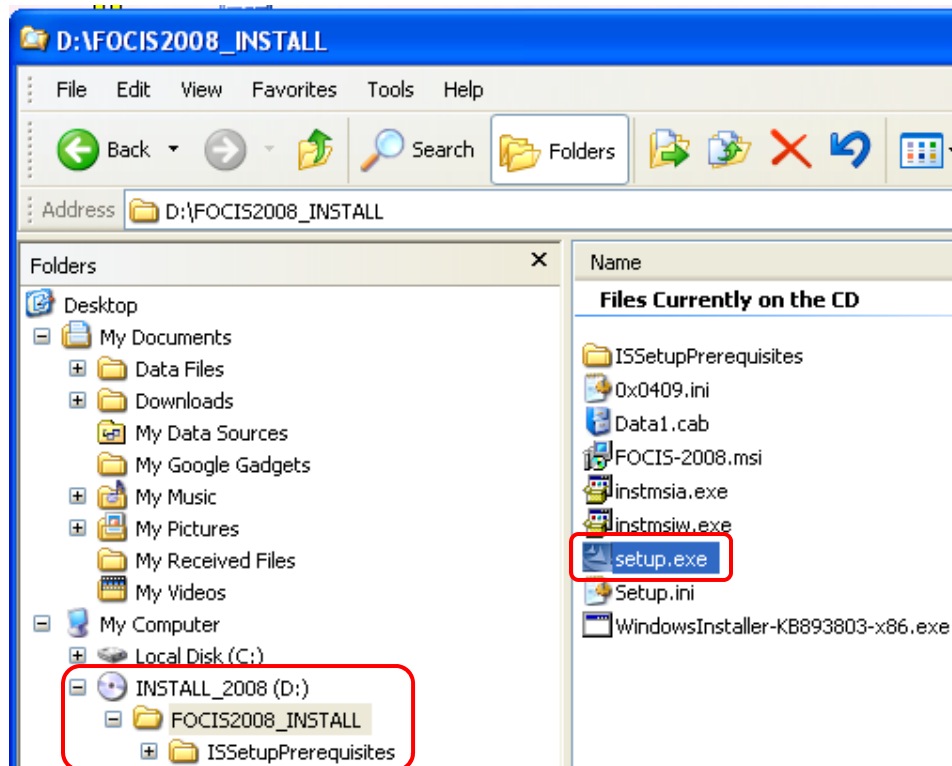

Figure II-9. Windows Explorer Showing Contents of FOCIS2008_INSTALL CD
2. If Windows Explorer does not automatically open, open it and scroll down in the left pane to show the contents of the CD, as shown in Figure II-9.
3. Double-click the **setup.exe** file in the right pane (Figure II-9).